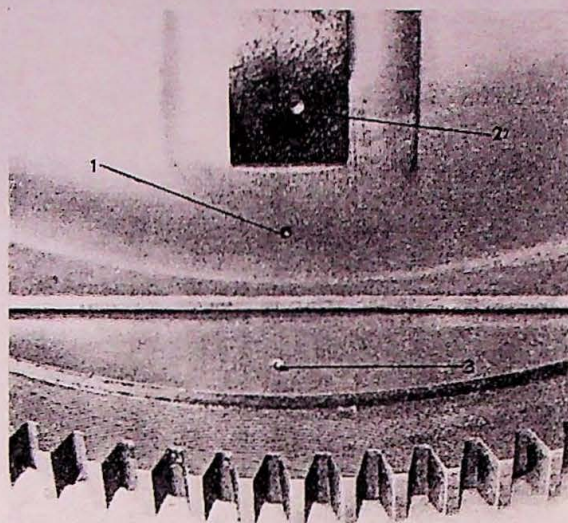

Fig. 3.
6. Punch-mark clutch, fig. 3, so that assembly after overhaul will be correct and the original balance maintained. Turn flywheel round to be sure that no earlier marking exists.
1. Turn flywheel to the position shown by punch marks made when disassembling, fig. 3.